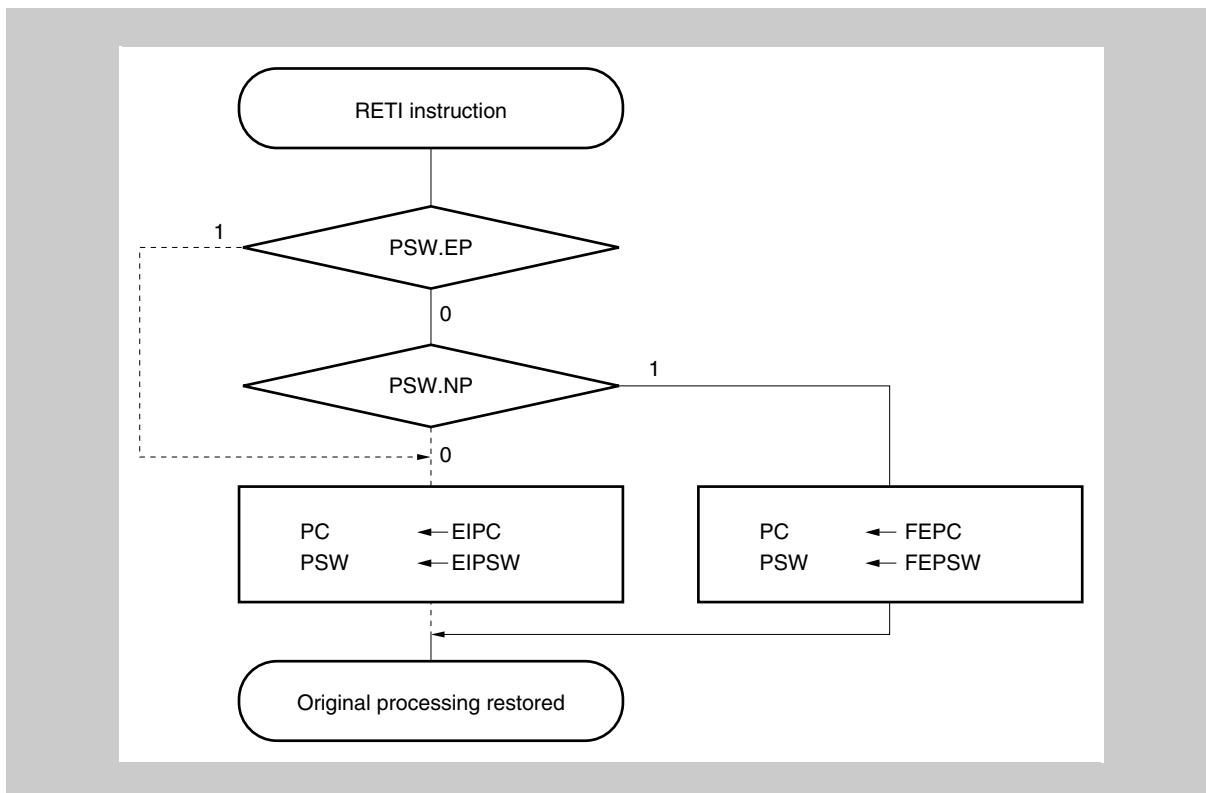

Figure 5-4 RETI instruction processing
*Figure 5-4 illustrates how the RETI instruction is processed.*